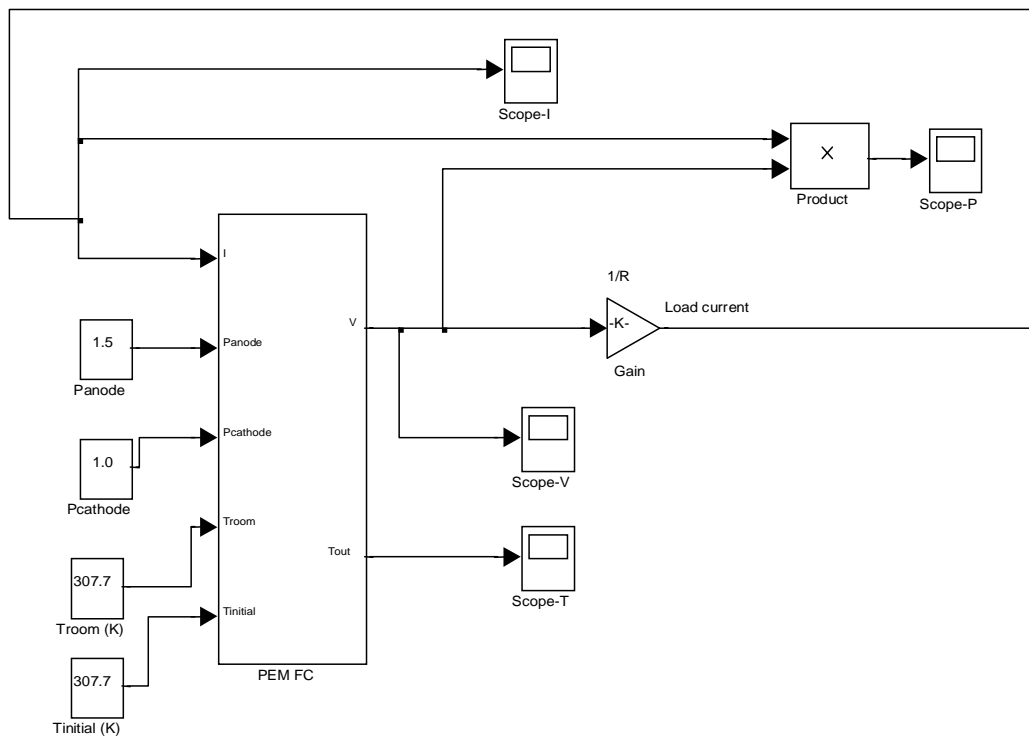

Fig. 1
2. Of course, one can use whatever load current data wishes. But the load current is limited to less than 25A in this model. Fig.1 shows an example when a 10-ohm resistor is connected to the PEMFC model.